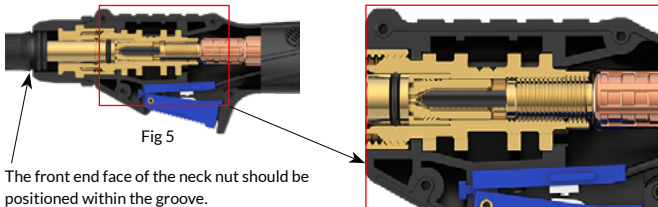

Fig 5
- The liner front-end sits inside the neck liner nipple as shown (Fig 5).